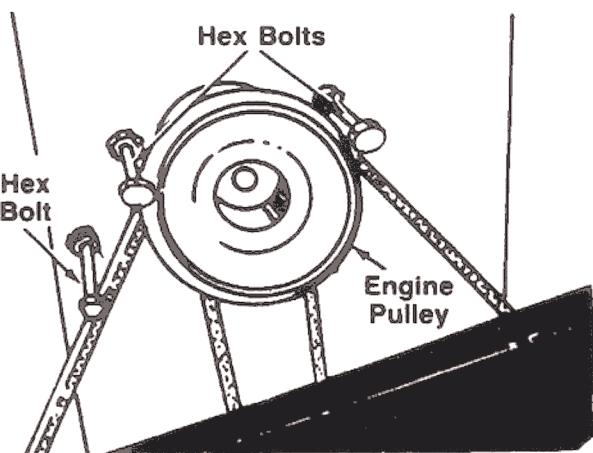

FIGURE 18.
NOTE: Figures 18 and 22 through 24 are shown with the unit tipped up for clarity. It is not necessary to tip the unit to remove the belts.
2. Remove the hex bolts (belt keepers) from the engine pulley belt guard. See figure 18.
NOTE: When reassembling, make certain hex bolts are assembled in the same locations from which they were removed. See figure 18.
- Remove the three hex bolts (belt keepers) from the engine pulley belt guard. Refer to figure 18.
NOTE: Make certain hex bolts are reassembled as shown in figure 18.